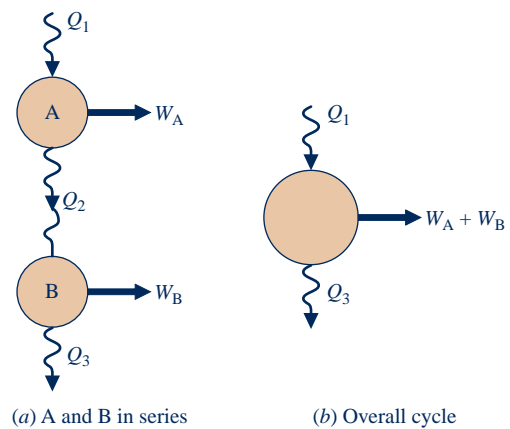

Fig. P2.83
2.83 Figure P2.83 shows two power cycles, A and B, operating in series, with the energy transfer by heat *into* cycle B equal in magnitude to the energy transfer by heat *from* cycle A. All energy transfers are positive in the directions of the arrows. Determine an expression for the thermal efficiency of an *overall* cycle consisting of cycles A and B together in terms of their individual thermal efficiencies.